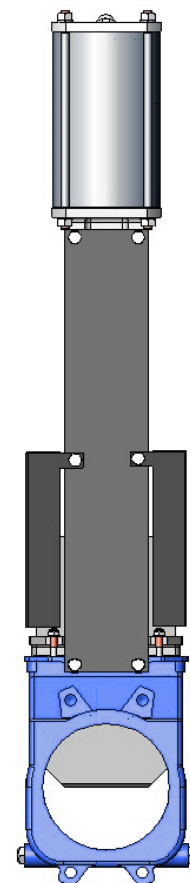

fig.12
3. EXTENSION: Extended Support Plates (fig 12).